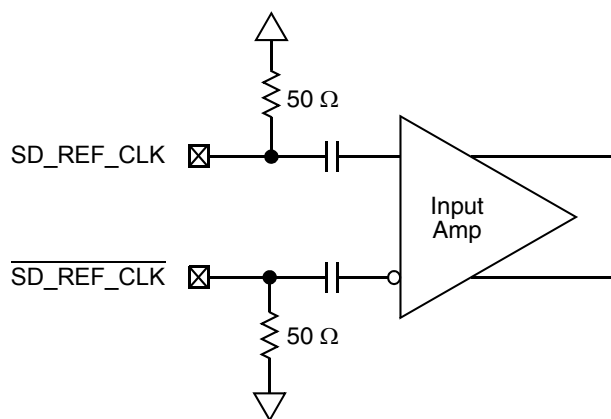

Figure 39. Receiver of SerDes Reference Clocks
Figure 39 shows a receiver reference diagram of the SerDes reference clocks.
- The SD\_REF\_CLK and  $\overline{\text{SD\_REF\_CLK}}$  are internally AC-coupled differential inputs as shown in Figure 39. Each differential clock input (SD\_REF\_CLK or  $\overline{\text{SD\_REF\_CLK}}$ ) has a 50- $\Omega$  termination to SGND\_SRDSn (xc0revss) followed by on-chip AC-coupling.